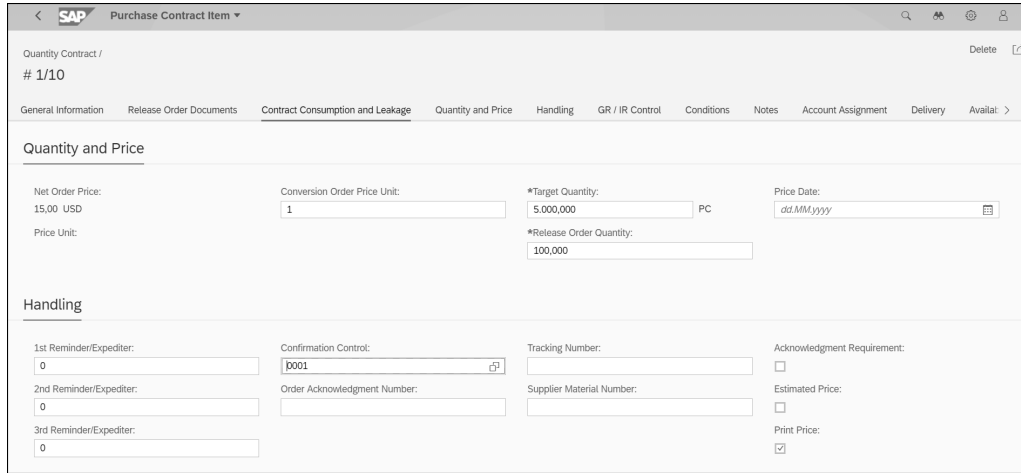

Figure 8.5 Create Contract Item: Quantity and Price
7. On the **Item Detail** screen, enter **Target Quantity** and **Release Order Quantity** and **Price**. Then you can maintain handling information such as **Confirmation Control**, **Order Acknowledgement**, **Tracking Number**, and more, as shown in Figure 8.5.